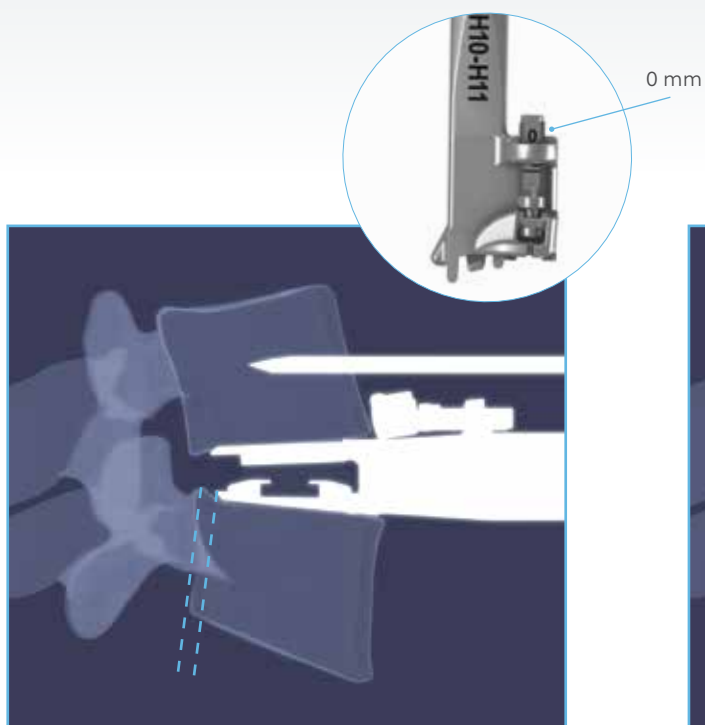

Figure 34
- Under fluoroscopy, proceed to millimetric adjustment to insert the prosthesis as close as possible to the posterior vertebral wall (**Figure 34**).